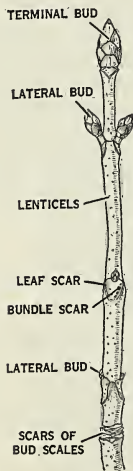

Fig. 359. A horse-chestnut twig in winter.
**A winter twig.** Let us examine a horse-chestnut twig in the winter or in the early spring before the buds have opened (Fig. 359). Look carefully for the markings. First you will find little triangular scars opposite each other on the stem. These are the scars where leaves of the preceding summer have broken off. They are *leaf scars*. If you look carefully at these scars, you will find little dots on each one. These little dots are the ends of the vascular bundles which carried liquid while the leaf